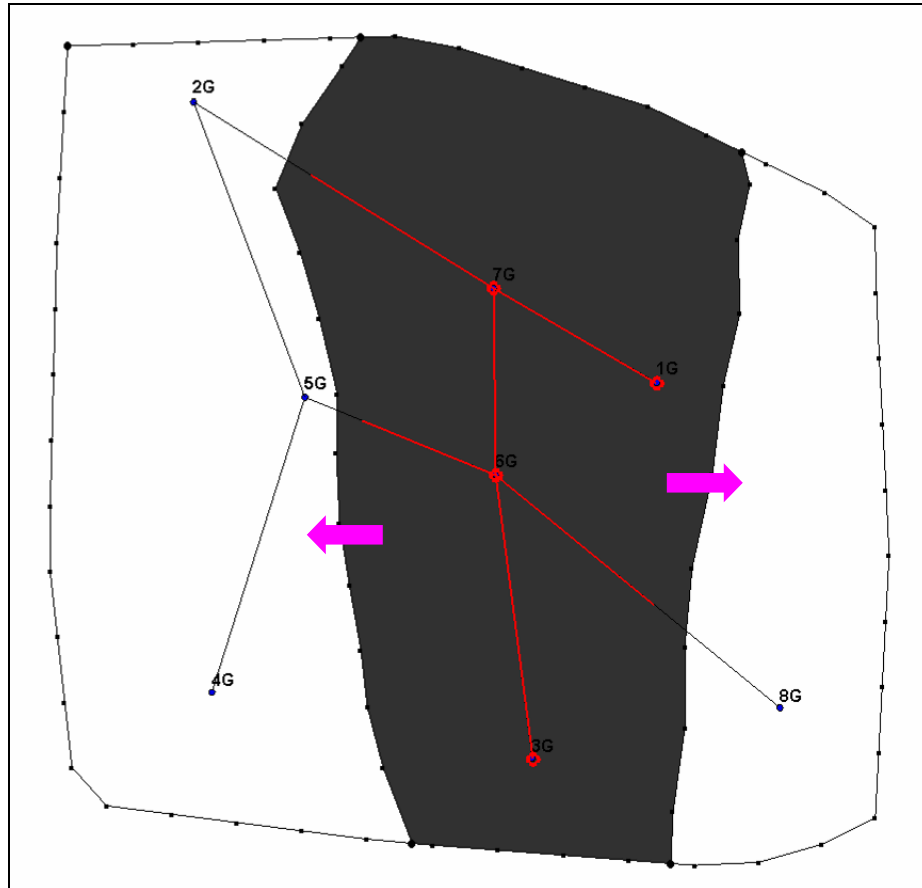

Figure 5 Polygons (identified by arrows) to be deleted
2. Delete the two polygons on the left and right of the model identified by the arrows in Figure 5 by clicking inside each polygon to select it and hitting the *Delete* key. Solids will only be created where a polygon exists.